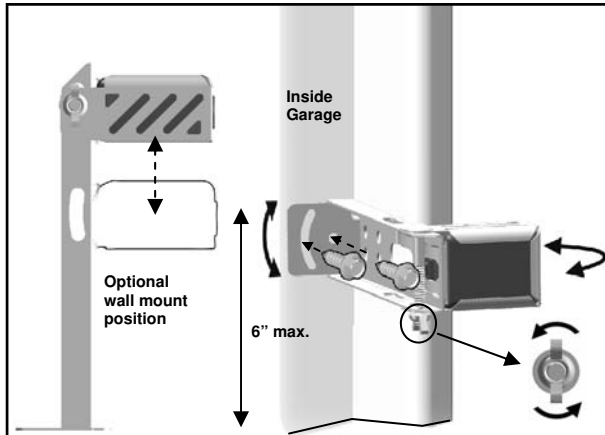

Fig. 1 (Wall Mount)
1. Place the Photo Eyes facing each other on each side of the garage door. Position the sensors so they are no higher than 6" (15cm) above the floor, as shown in Fig.1.